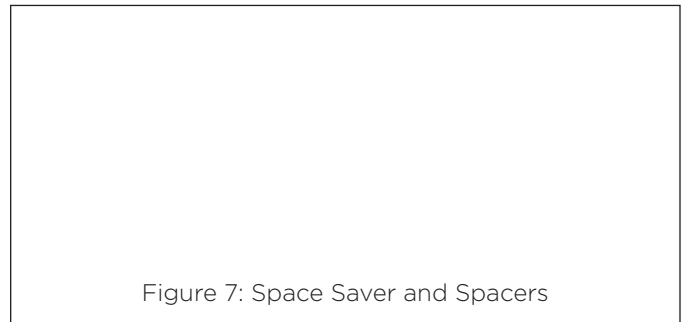

Figure 7: Space Saver and Spacers
3. Secure the Space Saver to the stacked spacers and shims to cover the speaker opening using the provided screws (see Figure 7).